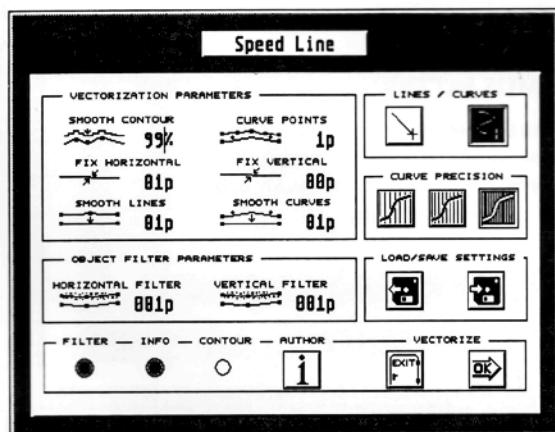

Fig 9. here you can see the speed module set for optimum performanace.
**STEP 6.** Now, execute the Speedline module and configure as seen in fig 9. Then click on OK and the resulting Continue button when the vectorising process has completed.